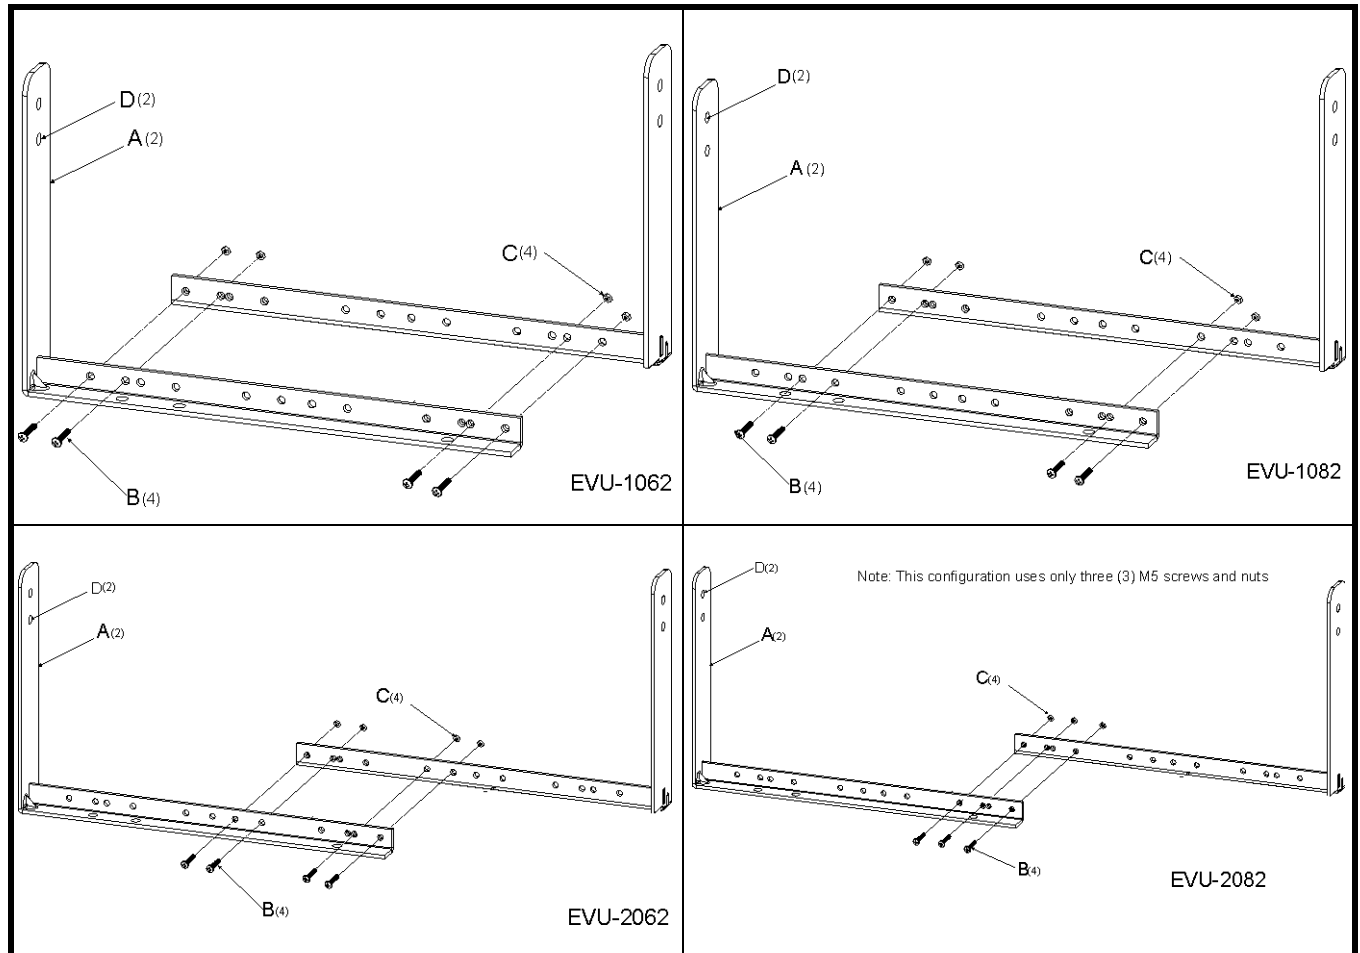

FIGURE 29. Universal U-Bracket Assembly
1. Orient the two (2) **bracket rails** (A) for assembly.
2. Using the diagram appropriate to your installation, insert four (4) **M5 pan head screws** (B) through the first and second bracket rails. See Figure 29.
NOTE: See Figure 29 for holes specific to the system being mounted.
NOTE: For mounting to a wall, use two (2) 5/16in fasteners (recommended) or use two (2) 1/4in fasteners (minimum requirement) including two (2) washers. See Figure 29 for hole locations.